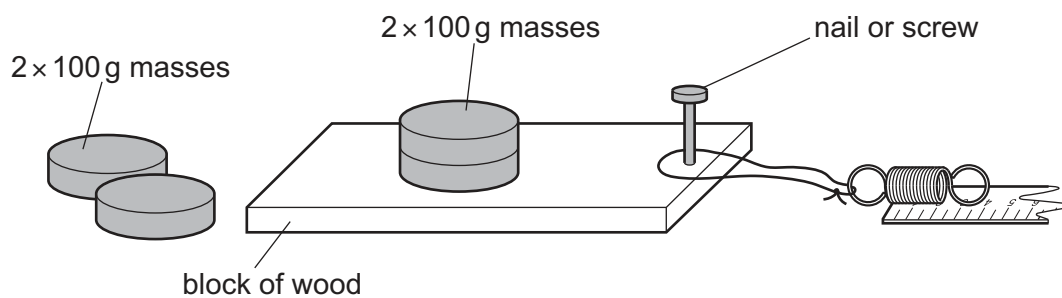

Fig. 1.1
1. A flat piece of wood with approximate dimensions $15\text{ cm} \times 4\text{ cm}$ and a thickness of between 1 cm and 2 cm is suitable. A small nail or screw must be fastened at one end as shown in Fig. 1.1. The screw should be approximately 1 cm in from the middle of one narrow end. The loop must be placed over the nail or screw.
2. One expendable steel spring, with an unstretched length of approximately 21 mm and a spring constant of approximately 25 N/m , e.g. Philip Harris catalogue number B8G87194. The thread must be made into a loop of approximate length 10 cm and tied to the spring as shown in Fig. 1.1.
3. The ruler should be fixed to the bench with the adhesive putty and the apparatus arranged as shown in Fig. 1.1.
The supervisor should ensure that all the apparatus is in the arrangement shown in Fig. 1.1.